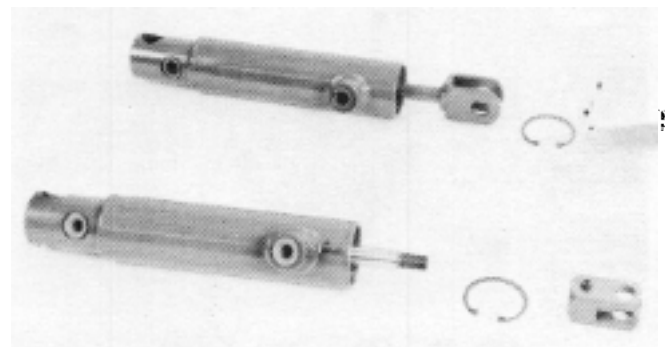

FIG. 22A. Remove Clevis & Snap Ring
2. Remove the snap ring or retaining ring from the cylinder (Fig. 22A or 22B).